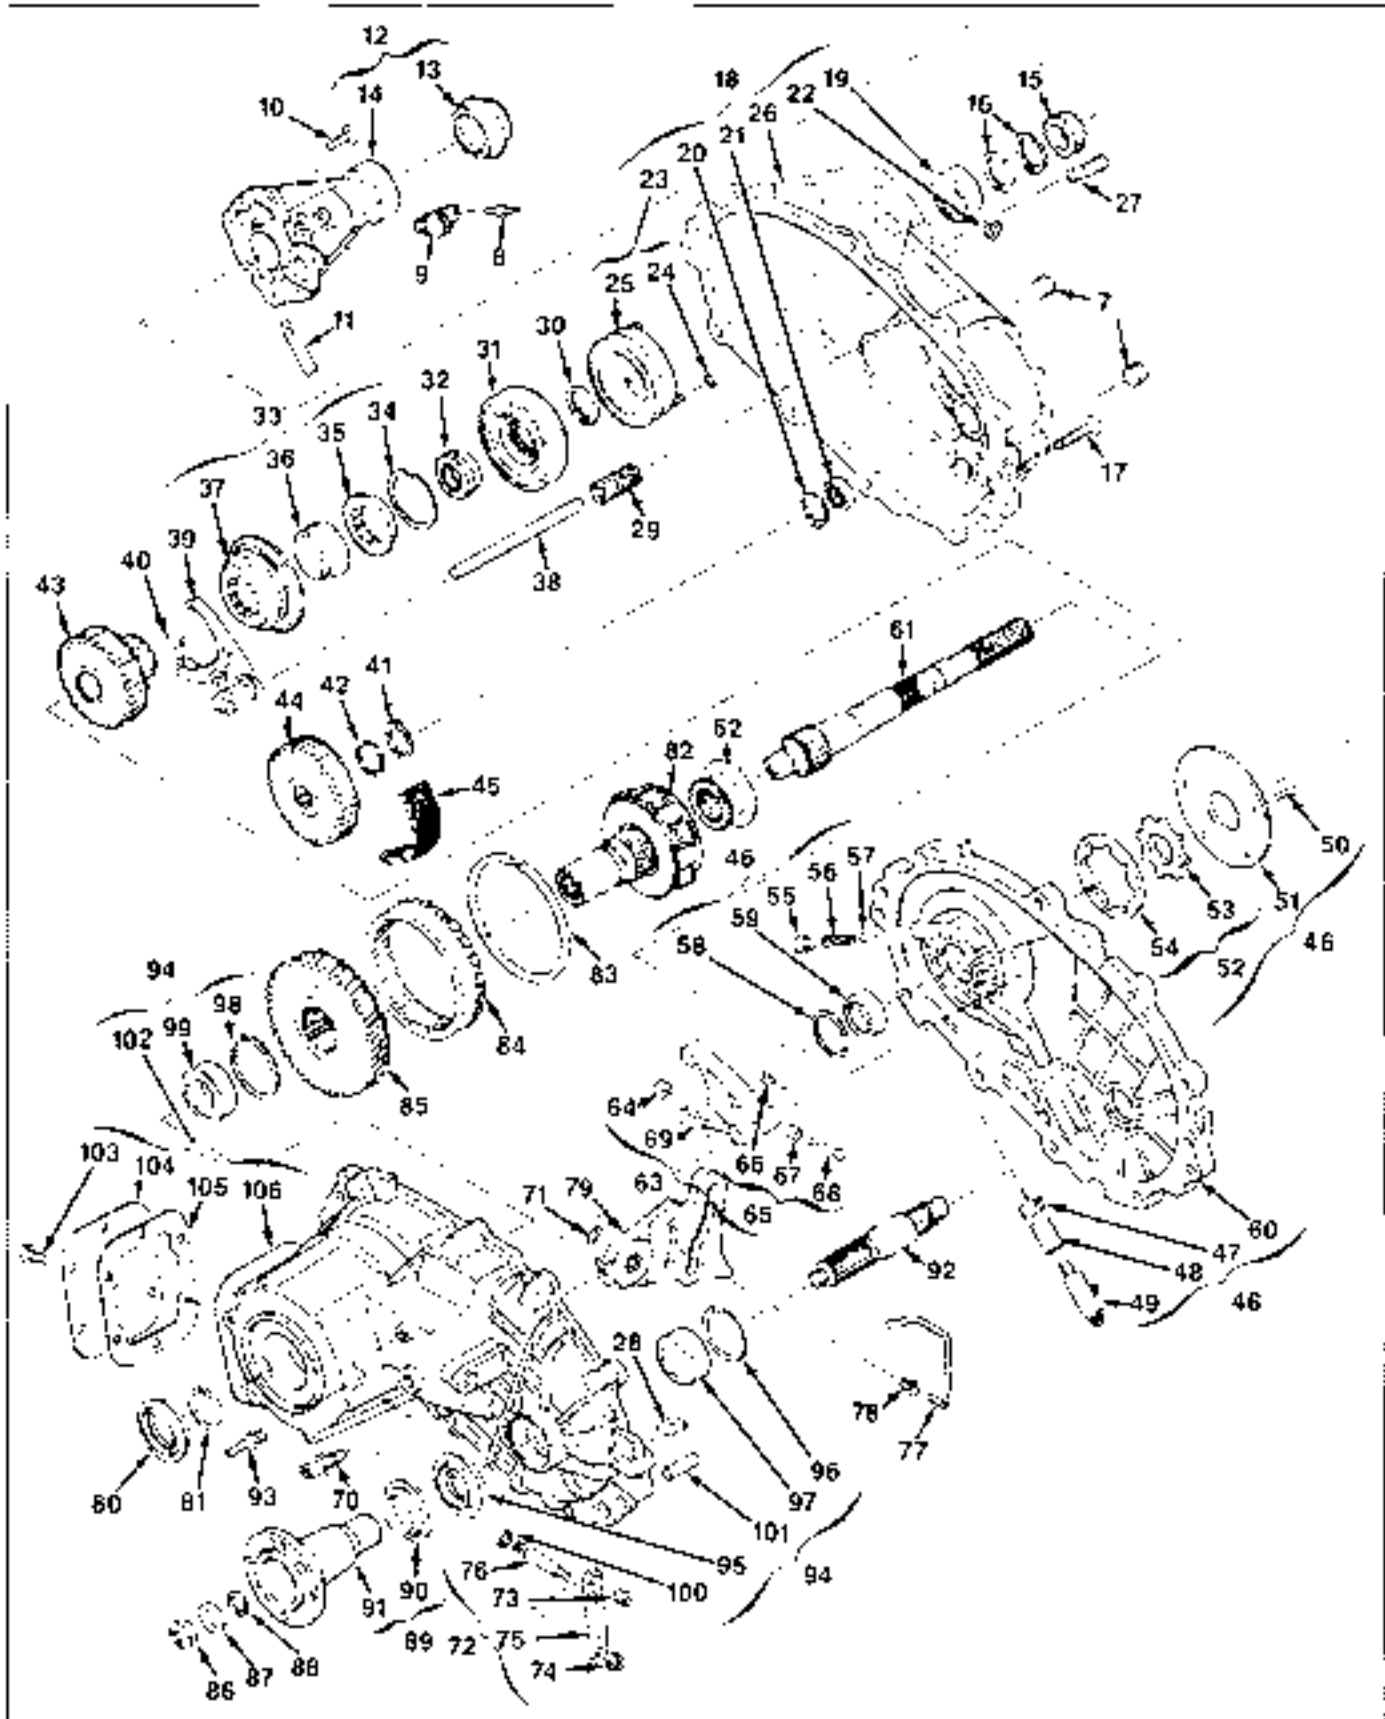

Figure P-2. Transfer Case Assembly PX 44-70-002
**PARTS LIST FOR FIGURE P-2**
**PARTS LIST FOR FIGURE P-2 (CONT)**